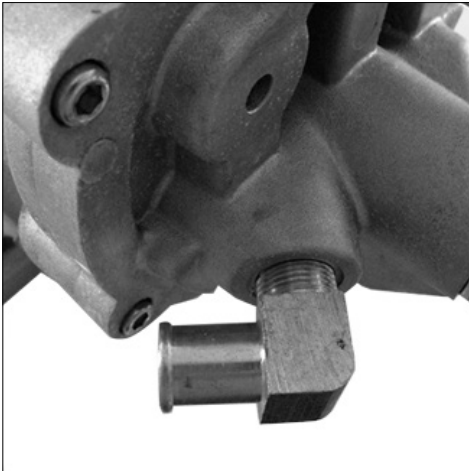

Figure 14: Beaded Hose Barb
**Step 2:** Orient the fittings so the 5/8" coolant hoses will clear surrounding components (Figure 14).